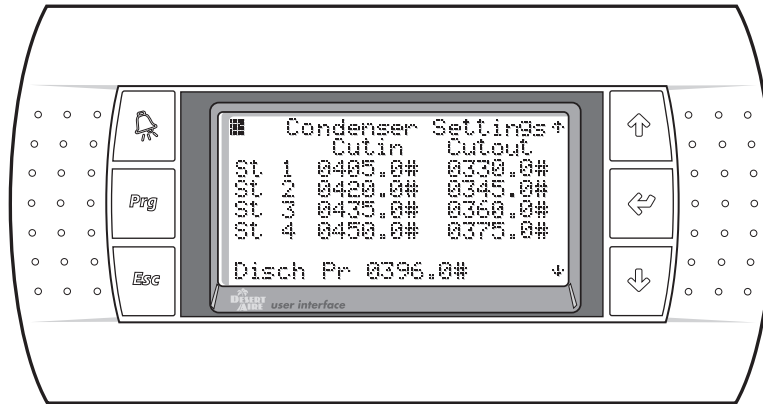

Figure 63
2.6.2.7 Condenser Settings (Figures 63 - 64)